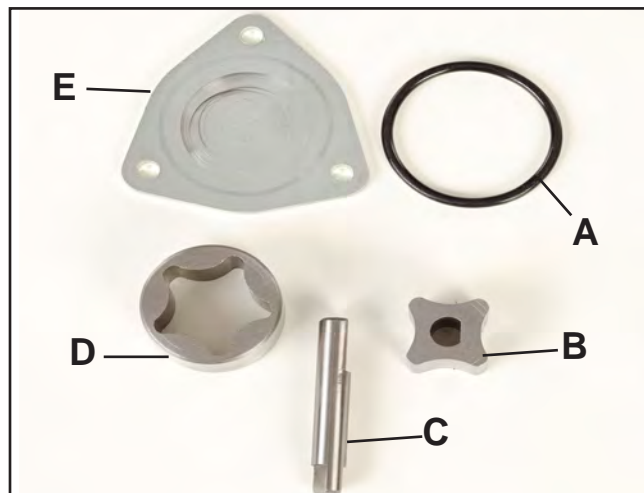

Figure 34
2. Remove o-ring and discard (Figure 34).
3. Remove the gerotor pump (B and D) (Figure 34).
4. Remove oil pump shaft (C) (Figure 34).